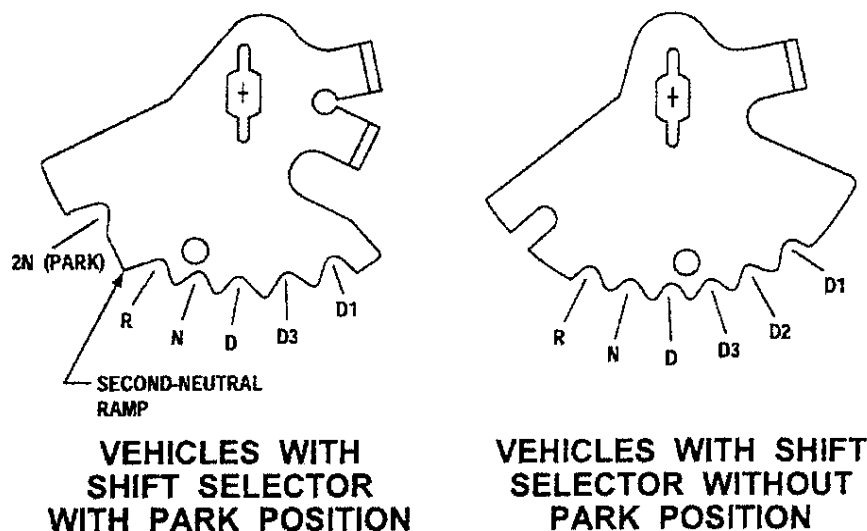

Figure 5-4. Identification of Internal Selector Levers
- Place the operator's shift selector control at the **N** (Neutral) position by the selector lever (hidden inside the transmission pan) in the **N** (Neutral) position by one of the following two methods (Figure 5-4):